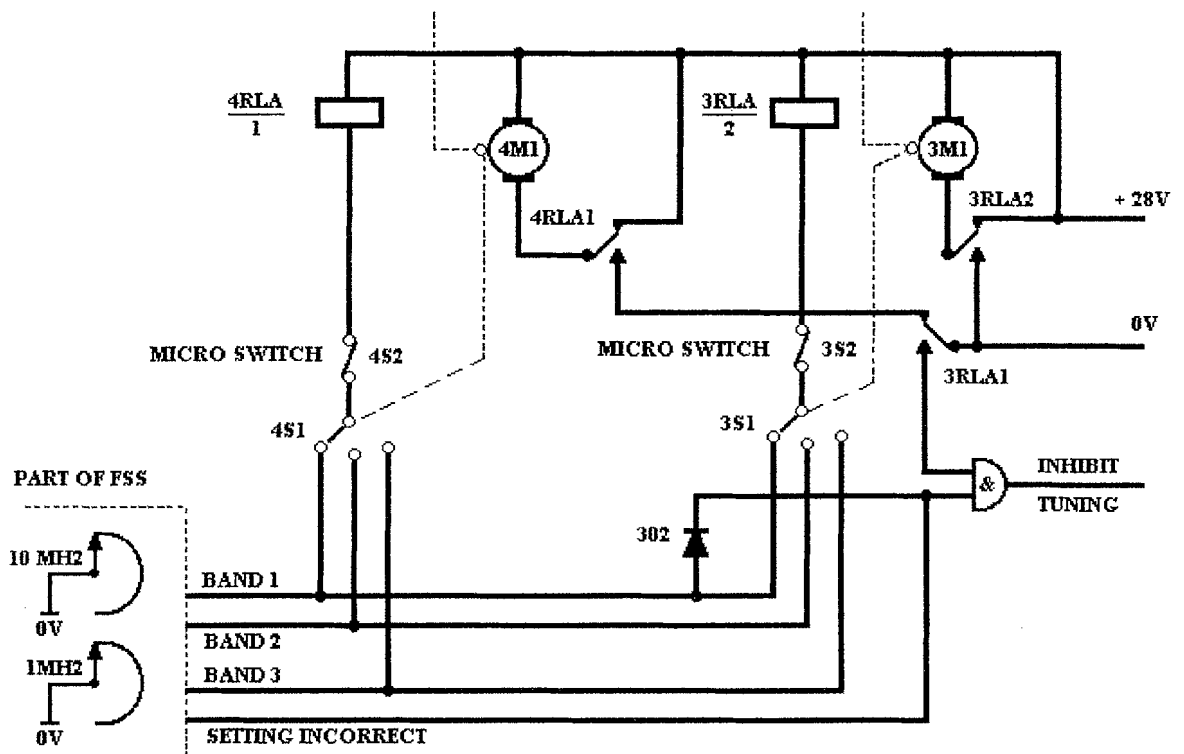

Fig 6. Simplified Turret Band Select
52. Fig 6 shows the system in the quiescent condition having selected Band 1. If the frequency selection switch is now changed to a frequency in Band 3 the following sequence occurs: